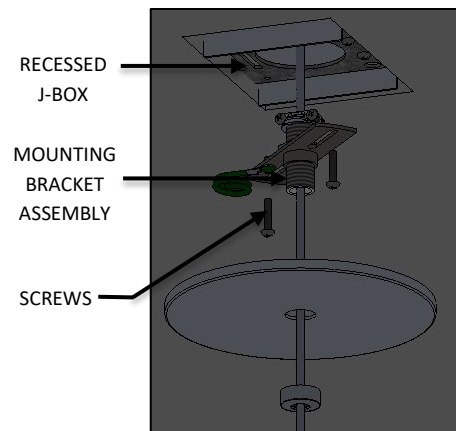

FIG. 29 – FINIAL ASSEMBLY
6. Raise MOUNTING BRACKET ASSEMBLY up to RECESSED JUNCTION BOX, and secure with the MOUNTING BRACKET SCREWS as shown in FIG.29.